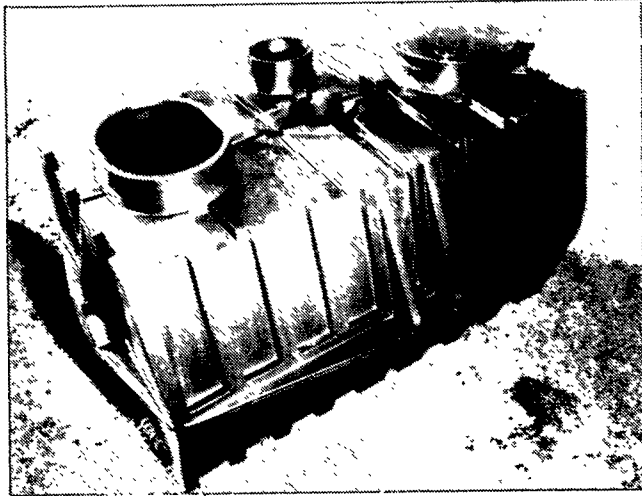

Figure 2. Redesigned 750-gal vault tank.
5. A complete redesign of the 750-gal vault tank (fig. 2) to increase its load capacity.